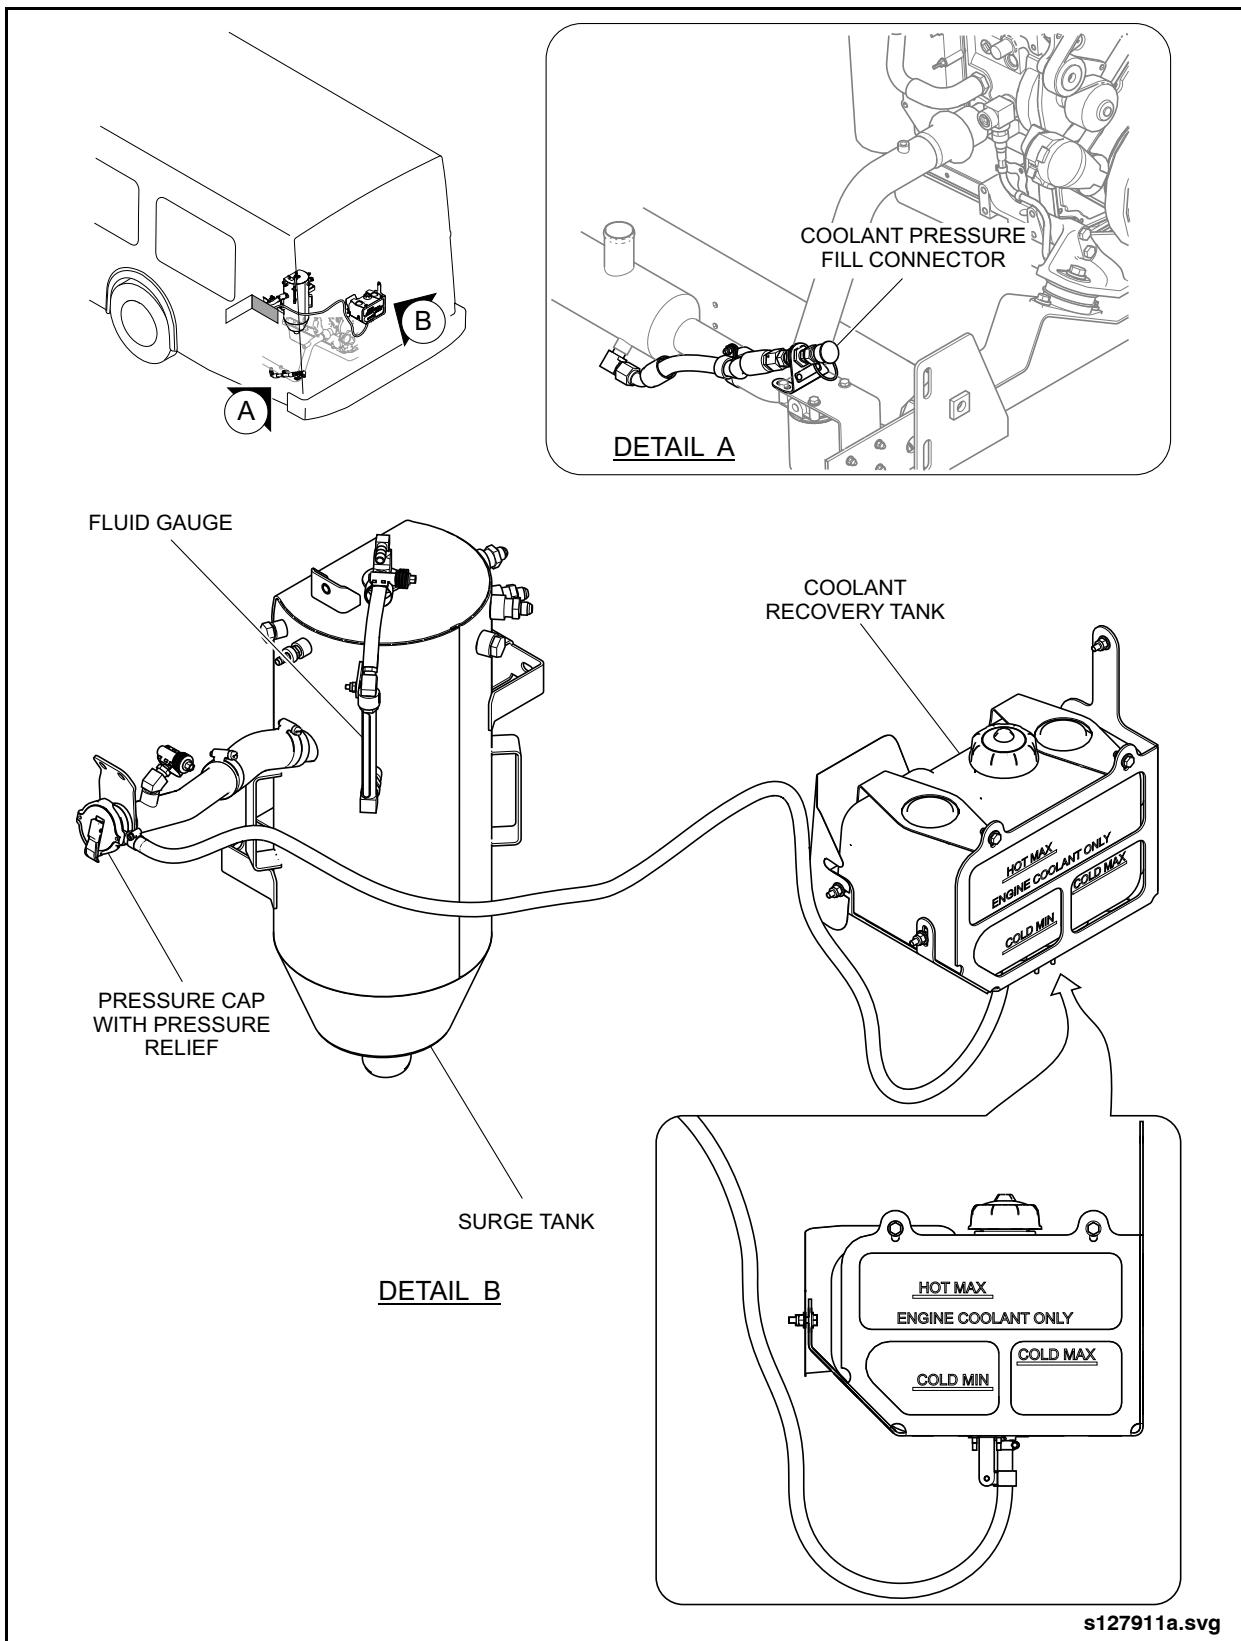

Fig. 6-1: Coolant System Fill Levels
4. Add coolant through the pressure fill connector until the surge tank is full. Stop when the coolant starts entering the coolant recovery tank. See "Fig. 6-1: Coolant System Fill Levels" on page 7.